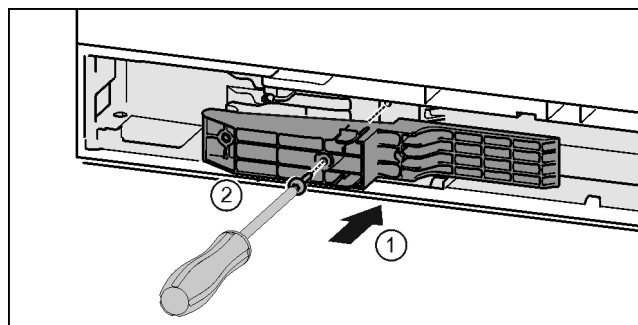

Fig. 44\*
- ▶ Install the adapter on the handle side of the slot.\* Fig. 44 (1)
- ▶ Tighten the screws with the T15 screwdriver.\* Fig. 44 (2)